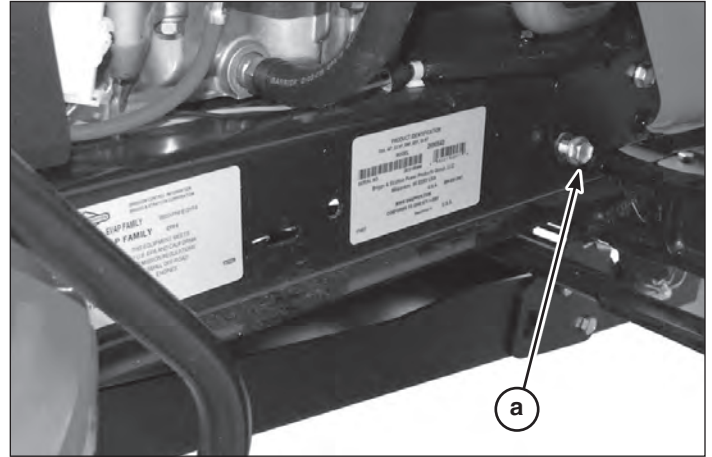

Figure 15
1. Remove taptite screw (**a**, Figure 15) from right side of tractor frame.